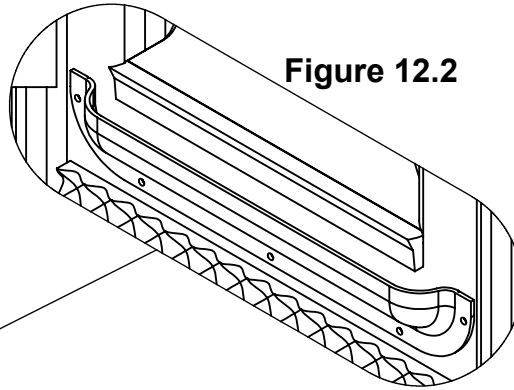

Figure 12.2
STEP 3: With the foam or carpet cut and the glue cleaned off the panel, line up the Bow Window Trough along the bottom of the bow window, as shown in Figure 12.2. Make sure the Trough is level and centered between the glass and the opening. The inside of the bow trough needs to have enough room, so the holes from the spring clips are not covered by the bottom of the trough, see Figure 12.3, any water that is caught by the trough will run out of these holes. Once you have the trough in place make sure the window will close and clear the trough. Then take a marker and mark the holes, or hold the trough in place and drill all 5 holes using a 3/16" drill bit.